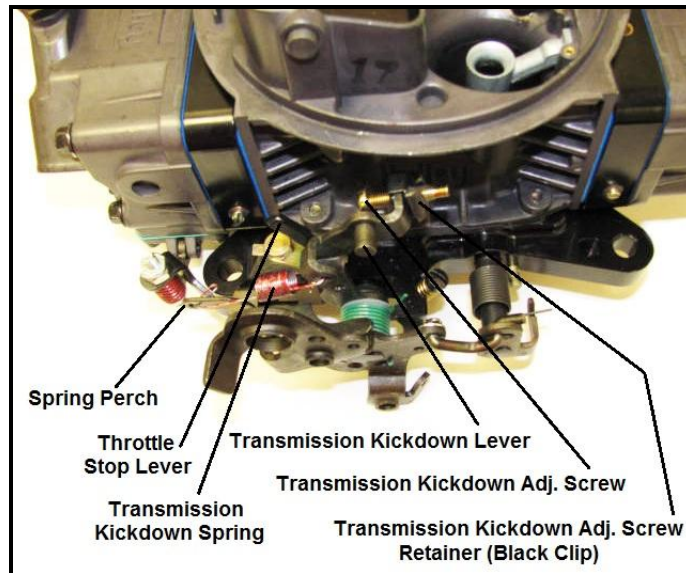

**Figure 1—Chrysler applications**
1. If you are replacing an existing Holley® carburetor, you may need to purchase and install a throttle lever extension (Holley® P/N 20-7) on the carburetor. Remove the throttle stud and nut from the original carburetor. You can purchase a new stud from your Holley® dealer (Holley® P/N 20-67). Install the stud in the throttle extension lever (**Figure 1**).